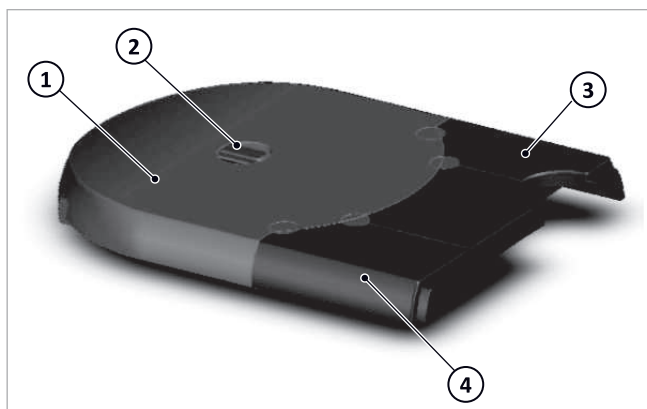
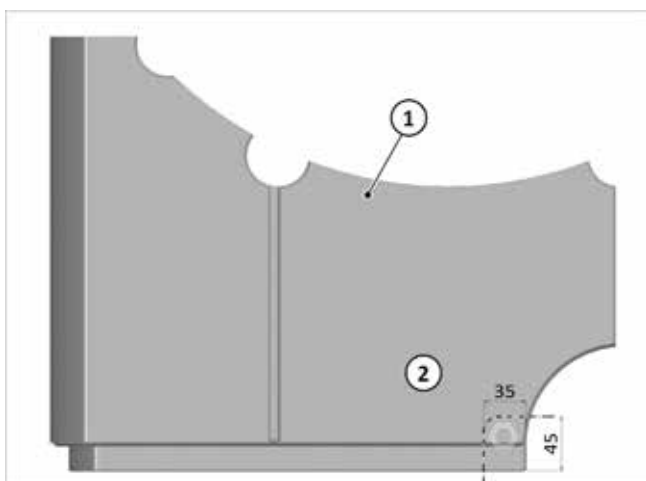

Fig. 118: Top SolvisBen insulation
Fig. 122: Cutting the inlet for the gas line if necessary
1. Take off the top insulation sections for the hot water station → fig. 118 (4) and heating circuit station → fig. 118 (3) from the top.
2. Take the tank insulation → fig. 118 (1) and carefully cut off the four foam plugs along the grooved slot (6) on the hot water station (5) using a sharp knife.
3. **Only with an integrated heating circuit station:** Cut off the plugs for the heating circuit station (7) along the slots (8).
4. Place the top tank insulation → fig. 118 (1) on the tank.
- On the left and right side (1)
- In the middle at the rear (2)
- In the middle at the front (3)
6. Attach the top insulation for the hot water station → fig. 118 (3).
7. When routing the gas line at the top, cut the top insulation for the hot water station (1, see also → fig. 118 (4)) as shown in → fig. 122 (or in the supplied template) before attaching it.
1. Completely install the assembled top insulation → fig. 118 (1+2+3+4) on the tank.